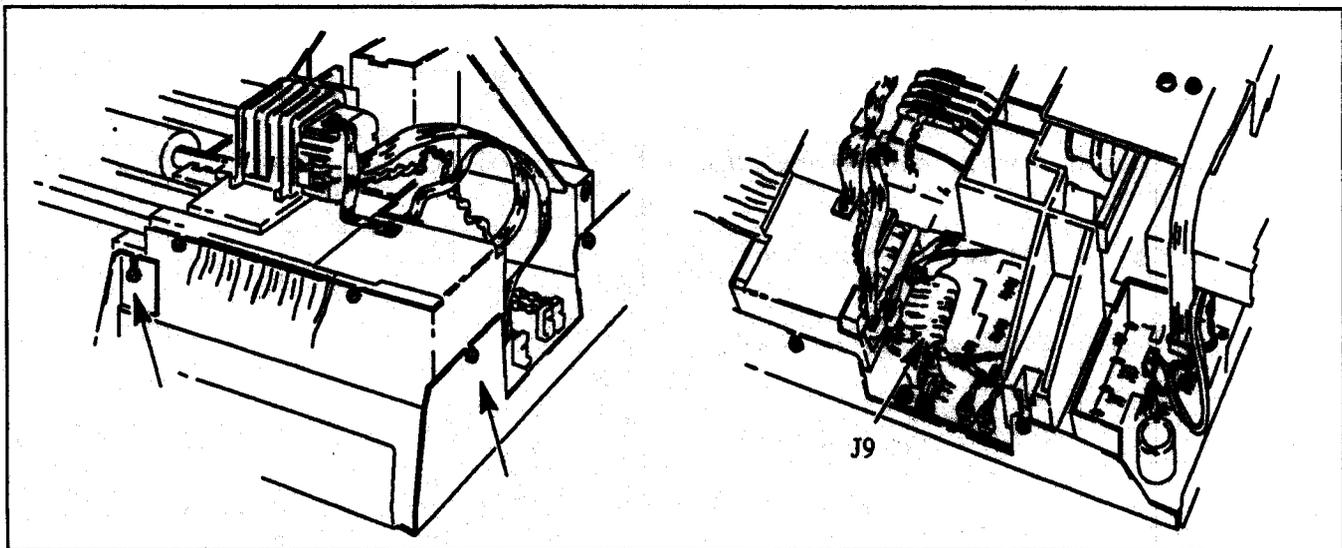

Figure 6-9. Front Panel Cable Removal
- a. Loosen the two front screws of the front panel cable shield. See Figure 6-9.
- c. Disconnect the front panel cable at J9 on the Main PCA. See Figure 6-9.